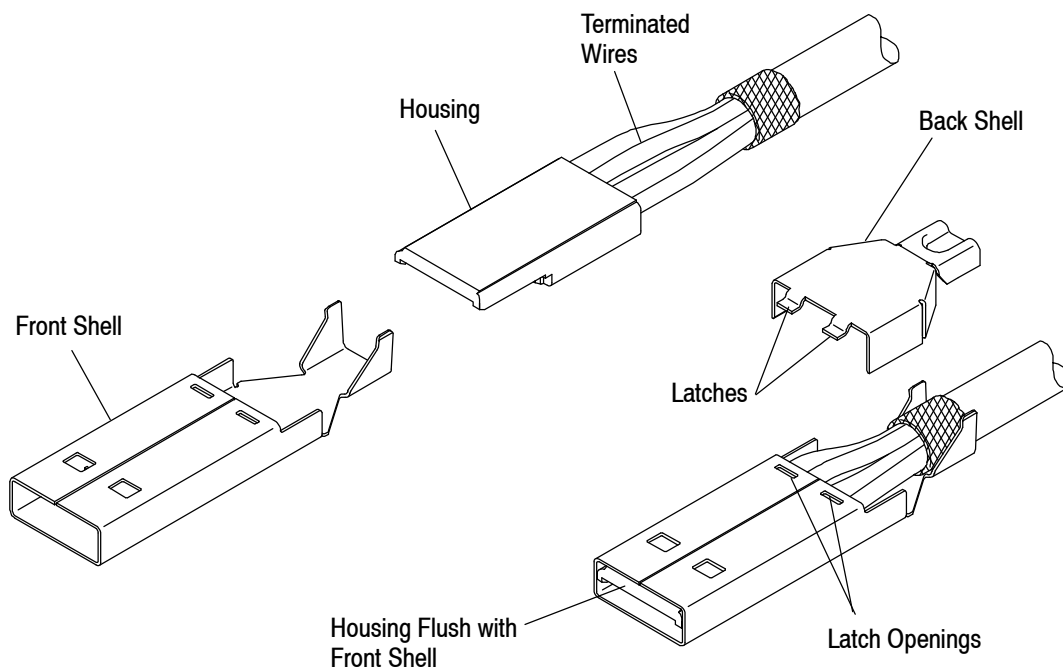

Figure 10
2. Guide the housing into the front shell and push the housing until it becomes flush with the front of the front shell. Orient the back shell and place the latches in the corresponding holes in the front shell and close as shown in Figure 10.